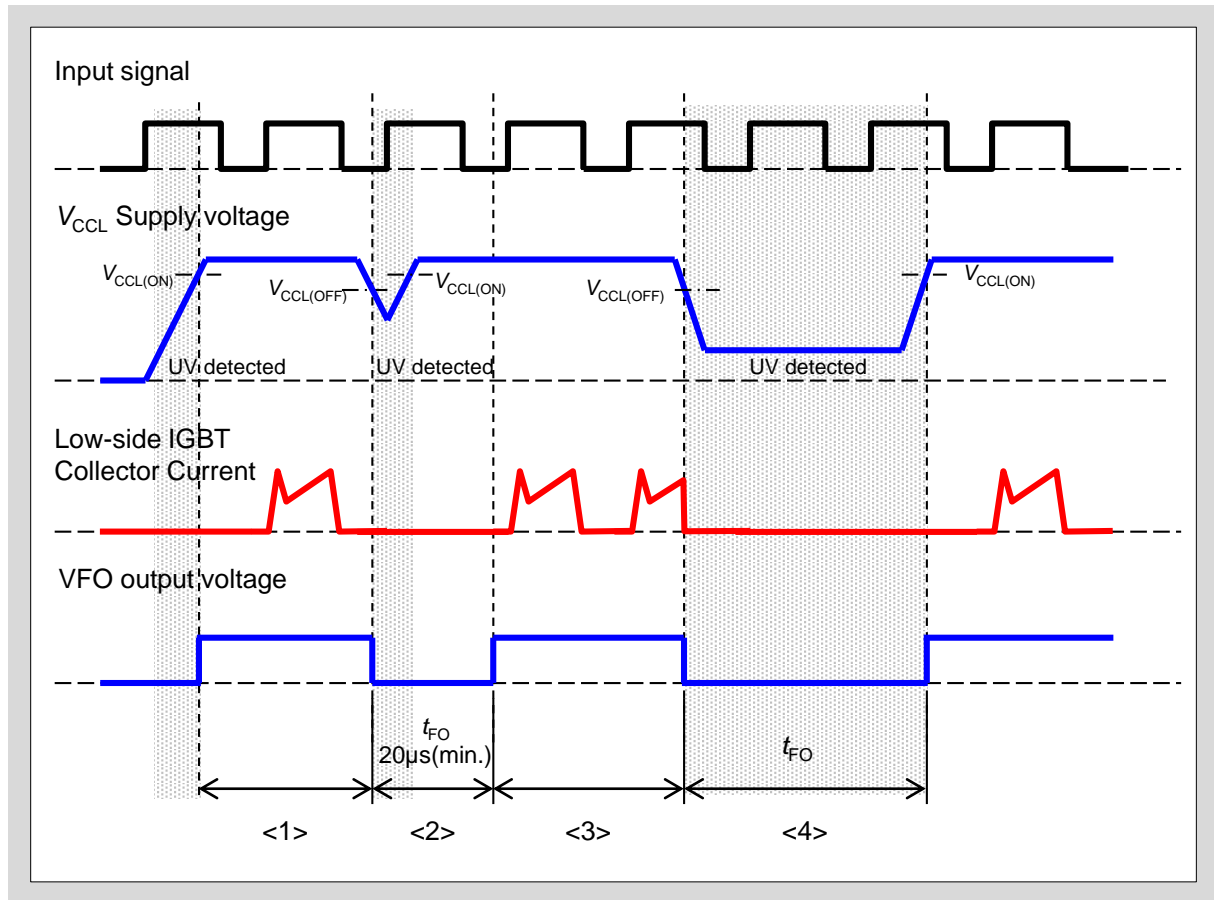
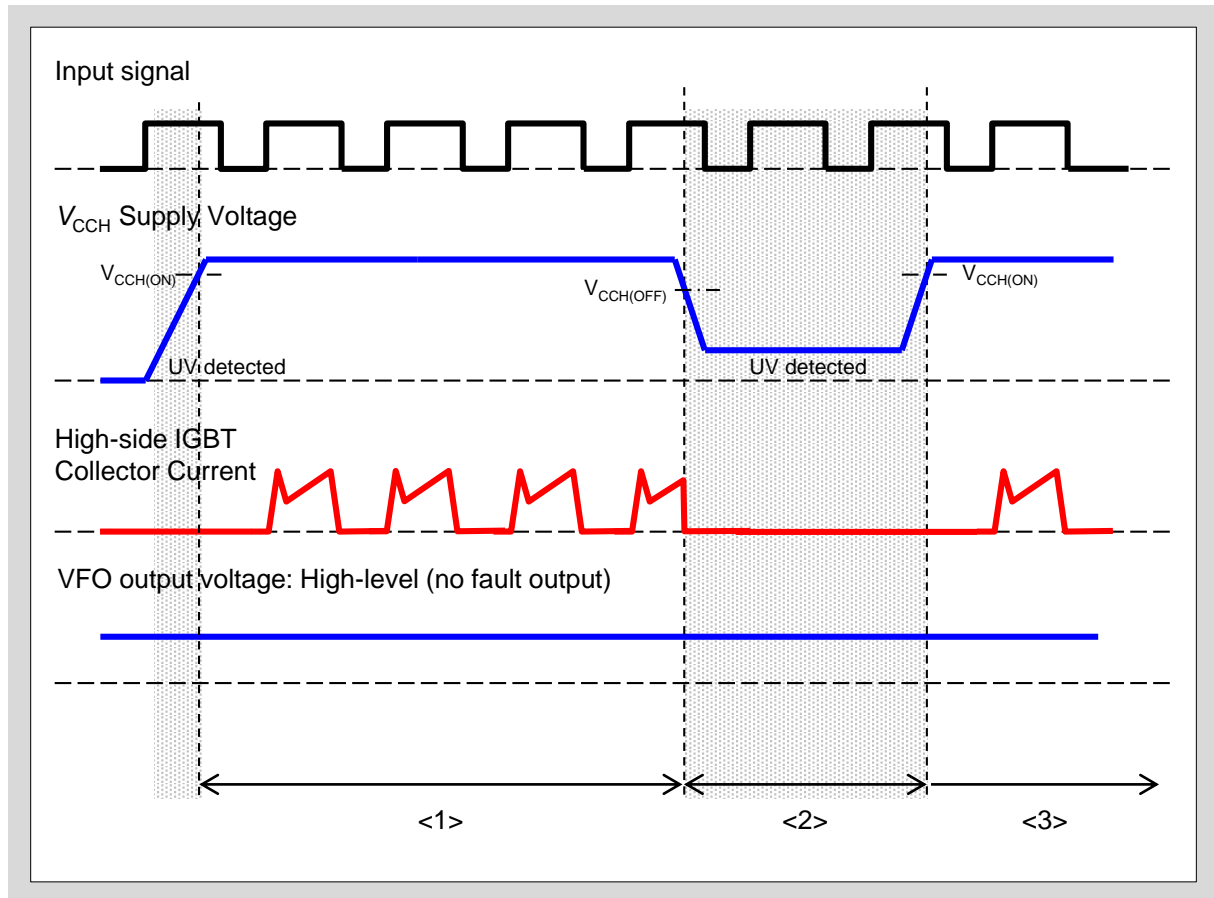

Fig.3-2 Operation sequence of V_{CCL} Under Voltage protection (Low-side)
Fig.3-3 Operation sequence of V_{CCH} Under Voltage protection (High-side)
- Fig.3-2 and Fig.3-3 shows the operation sequence of UV operation of V_{CCH} and V_{CCL} .